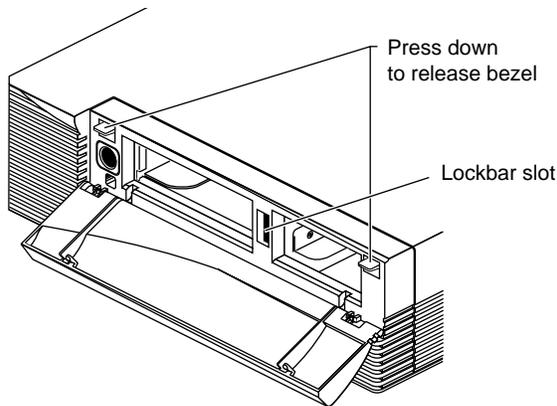

Figure 1-3 Releasing the Bezel
- Press down on the tabs on each side of the bezel See Figure 1-3.